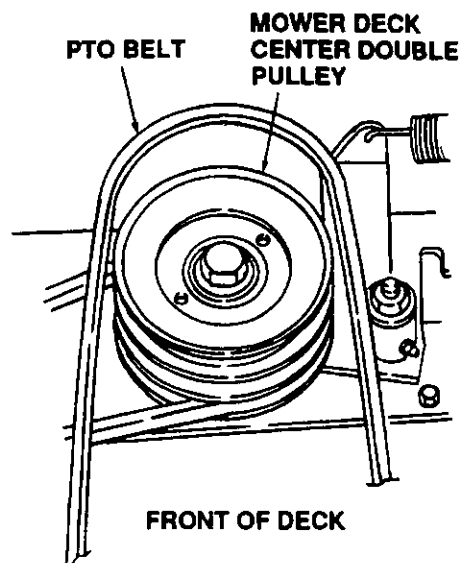

Figure 33
10. Remove rearward end of PTO belt from the upper pulley of deck center double pulley. (Refer to Figure 33.)